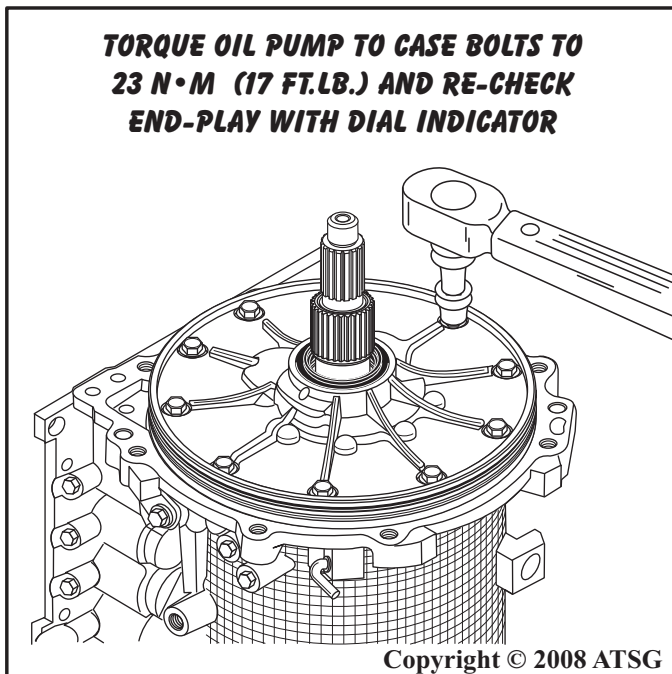

Figure 213
67. Torque the ten oil pump assembly to case bolts to 23 N•m (17 ft.lb.), as shown in Figure 213.